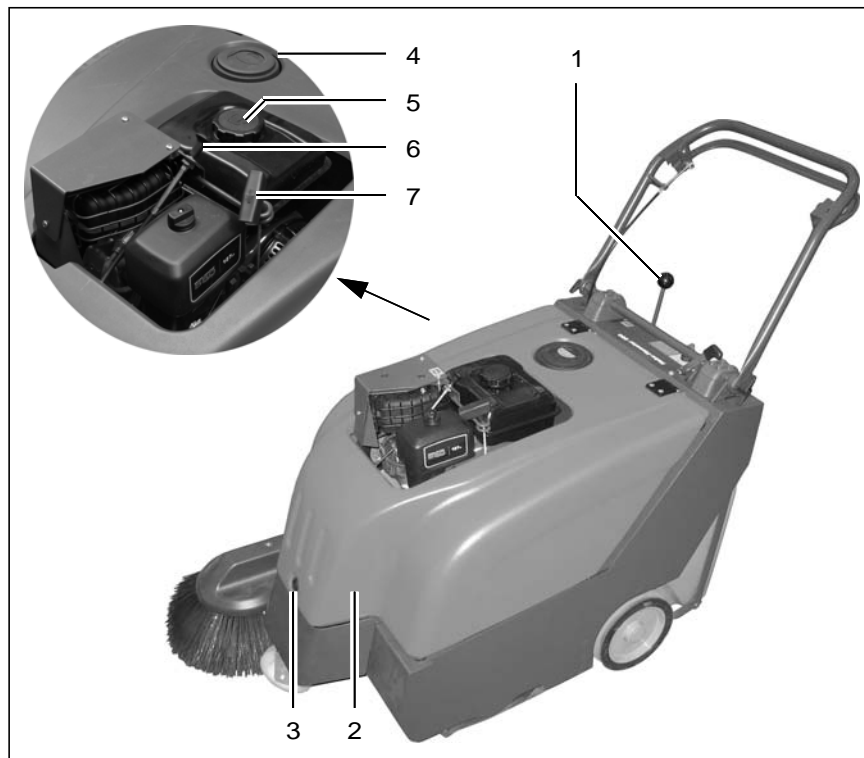

Fig. 7
Unscrew the fuel tank cap (Fig. 7/5) and fill approx. 2.5 l gasoline. Screw the fuel tank cap back on.
### Side brush lever (Fig. 7/1)
### Hood with lock (Fig. 7/2)
The hood should only be opened for maintenance and repair work. In this case, unlock the lock (Fig. 7/3) using a square wrench and pivot the hood up.
### Bypass flap (Fig. 7/4)
### Fuel tank cap (Fig. 7/5)
### Choke (Fig. 7/6)
### Recoil starter (Fig. 7/7)
2. Pull out the choke (Fig. 7/6) in the case of a cold start.
3. Pull the recoil starter cord (Fig. 7/7) until the starter clutch perceptibly en-
gages (slight resistance) and then pull the starter cord (Fig. 7/7) hard and fast to start the engine.
4. Release the starter cord (Fig. 7/7) and let it recoil back into the housing.
5. Then push the choke (Fig. 7/6) back in, slowly.